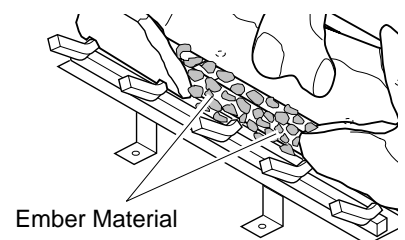

Figure 52 - Placing Ember Material on Burner
7. Pull ember material apart into pieces no larger than a dime. Place these pieces loosely and sparingly directly onto the exposed section of the front burner and along the space between the burner and grate prongs (see Figure 52). This will create the glowing ember appearance as the flame touches the ember material. Do not block air slots by using too much ember material in one area. It is not necessary to use all of the ember material provided.